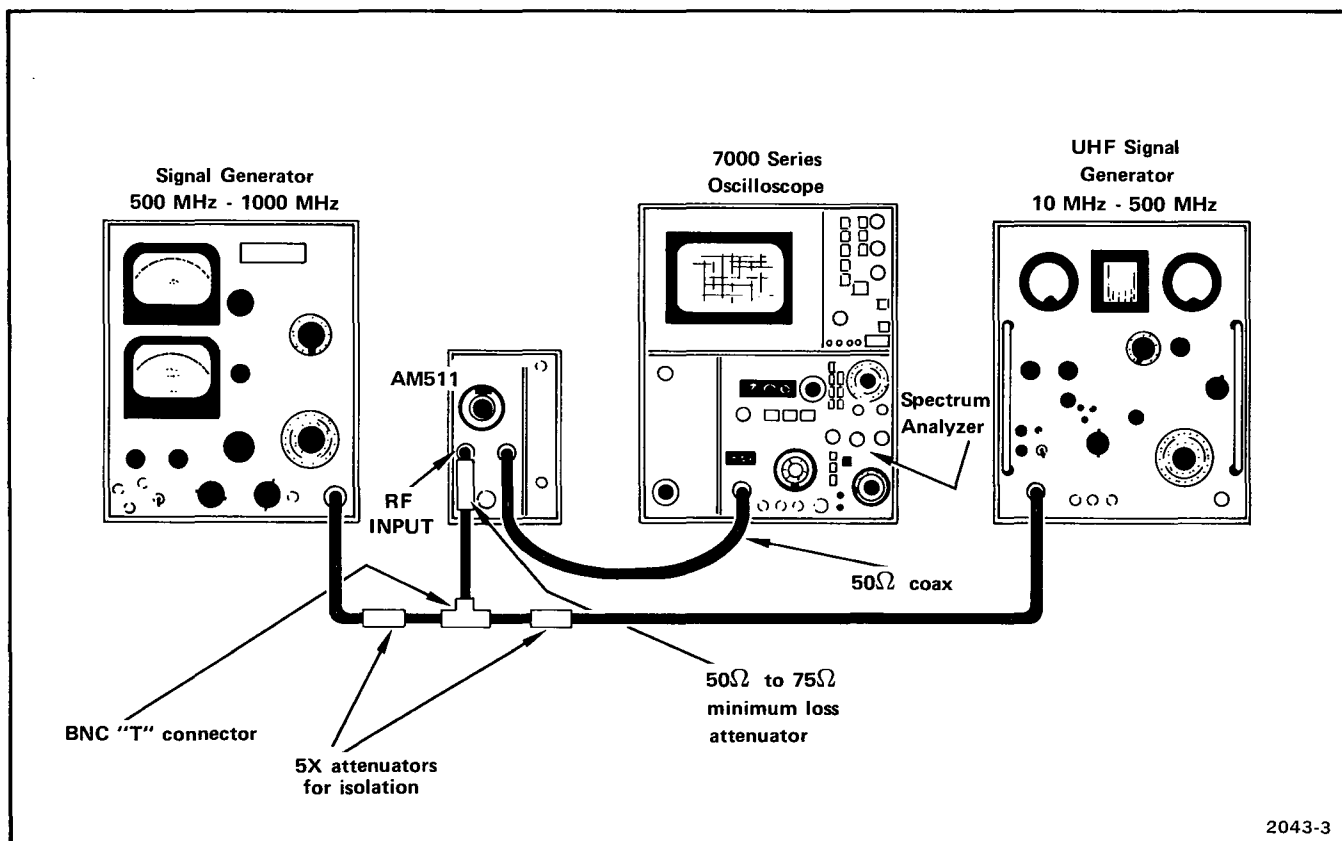

Fig. 3-3. Equipment setup and connections necessary to measure intermodulation distortion.
a. Apply two signals within the frequency range of the AM 511 and separated approximately 2 MHz to 10 MHz, through two 5X attenuators (for isolation), a BNC "T" connector, then through a 50 Ω to 75 Ω minimum loss attenuator, to the AM 511 RF INPUT. Fig. 3-3 illustrates this setup.